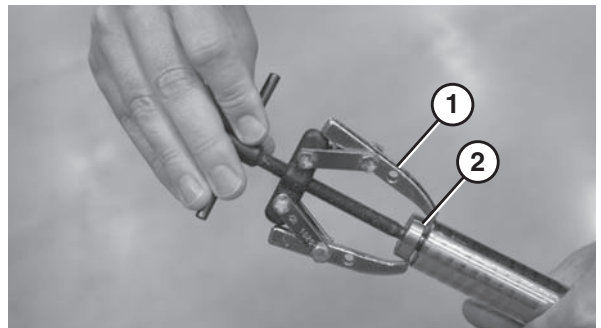

Figure 97
3. Using a bearing removal tool (**Figure 97, item 1**) remove the bearing (**Figure 97, item 2**).